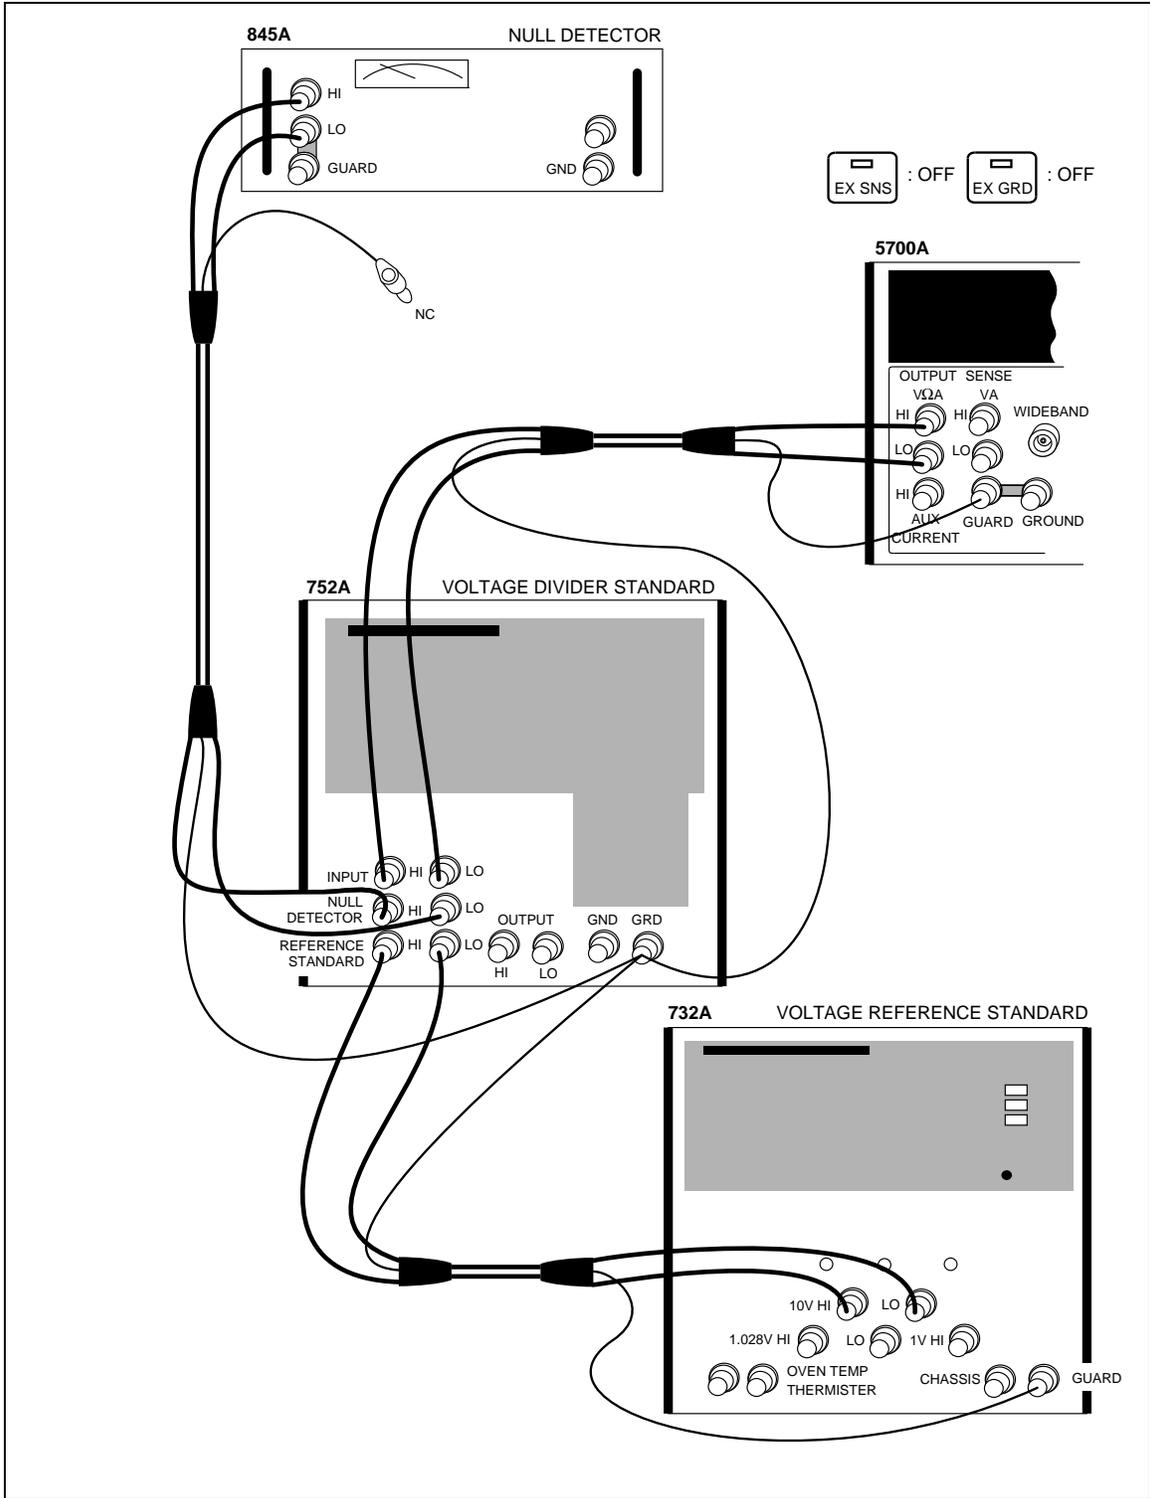

Figure 3-4. 220V DC Range Calibration Connections
7. Connect the 732A, 845A, and 752A in a 10:1 configuration as Figure 3-4 shows.
- 2. Connect the equipment as shown in Figure 3-4.